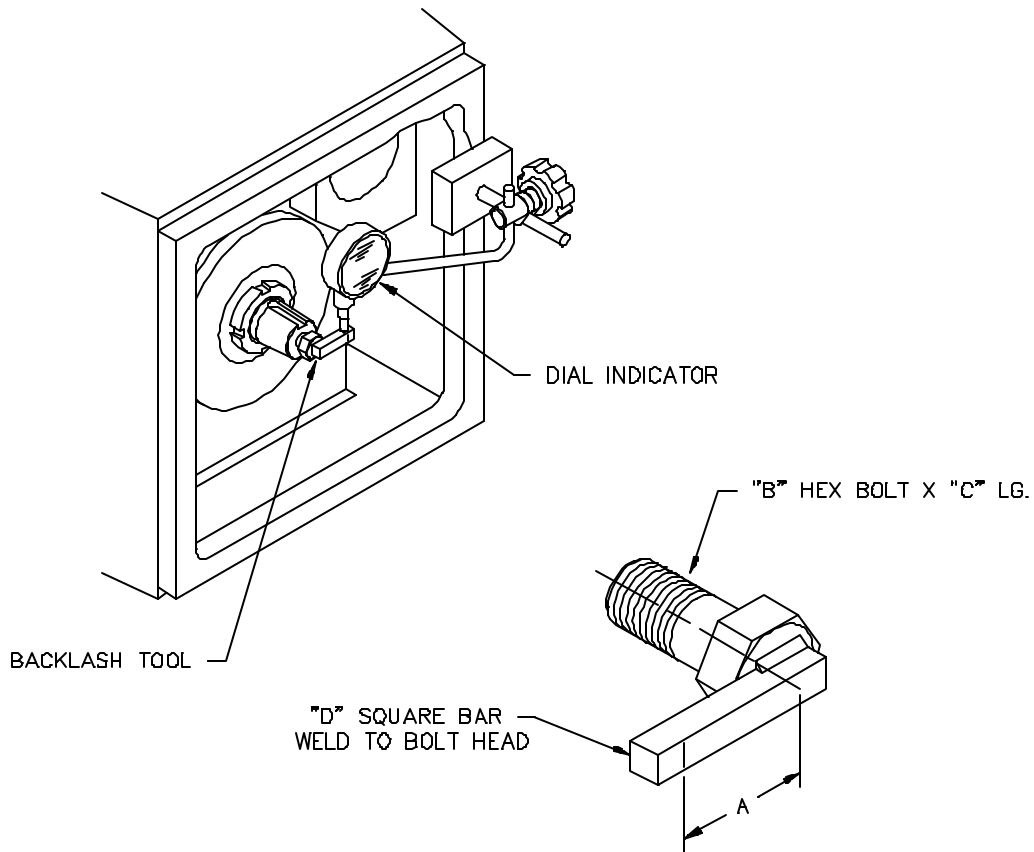

Figure 14: Backlash Setting
11. Install a backlash tool (supplied by others) (*Figure 14, page 20*) in the spiral bevel pinion shaft and measure the backlash by placing a dial indicator against the backlash tool at a right angle to the rotation. Restrain the output shaft from turning and rotate the spiral bevel pinion shaft back and forth to measure the free movement.